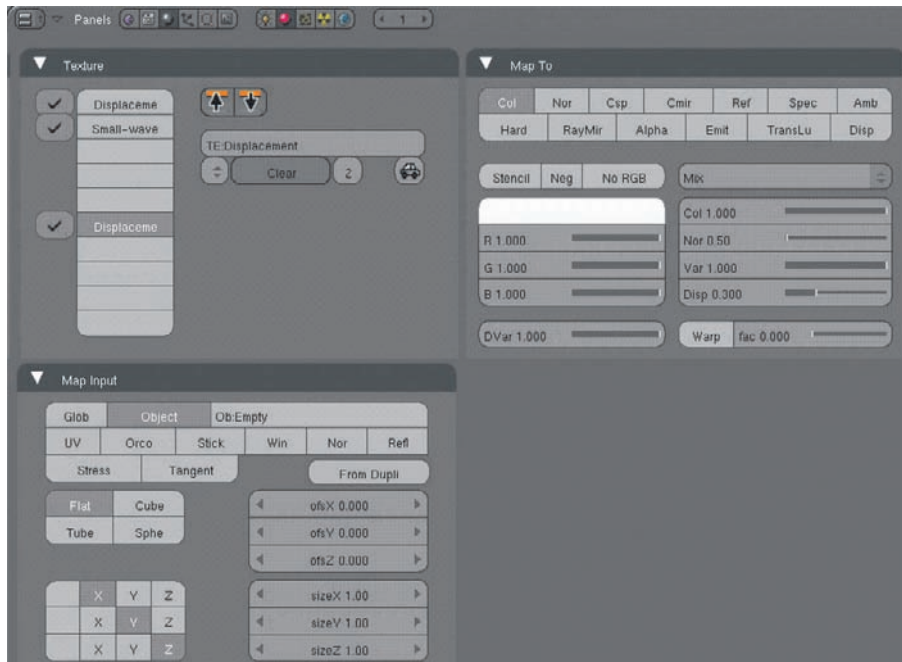
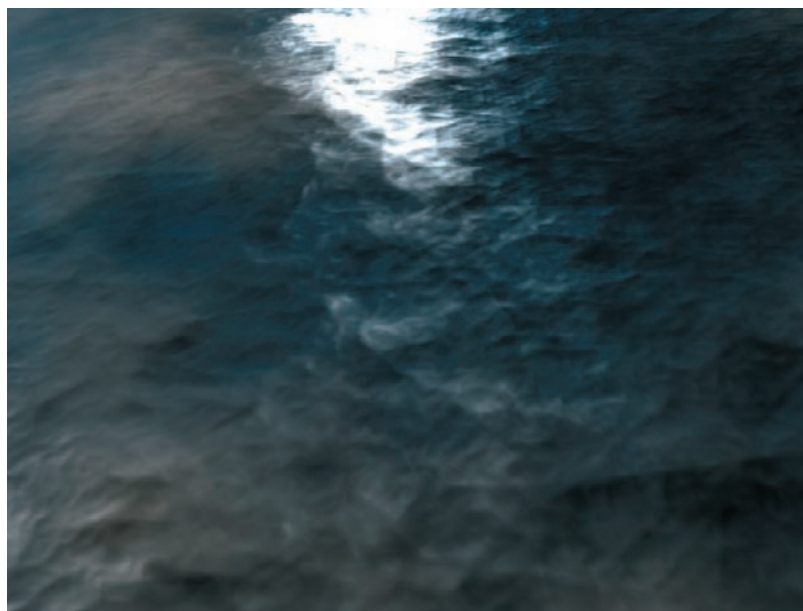

Figure 1.41 Using the Displacement texture as a color map
Figure 1.42 Test render
7. For the foam on the waves, use the same texture as you used for the displacement. Do this by selecting channel 0 (the top channel) and pressing the Copy To Clipboard button (the left-hand button of the two highlighted buttons in Figure 1.41). Then select channel 5 (the sixth one down, as shown in the figure) and press the Copy From Clipboard button. Map this texture to color, and make sure the R, G, and B values are turned to white. A test render yields something like Figure 1.42.